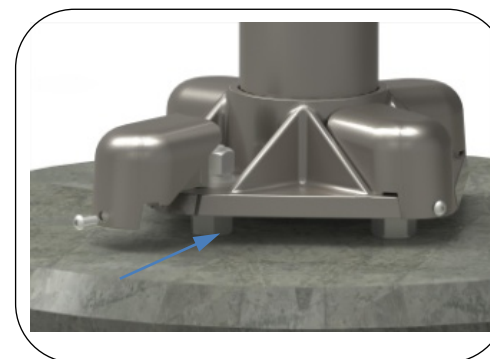

Fig. 6 – Install nut covers
6. Install the nut covers as shown in Fig. 6.